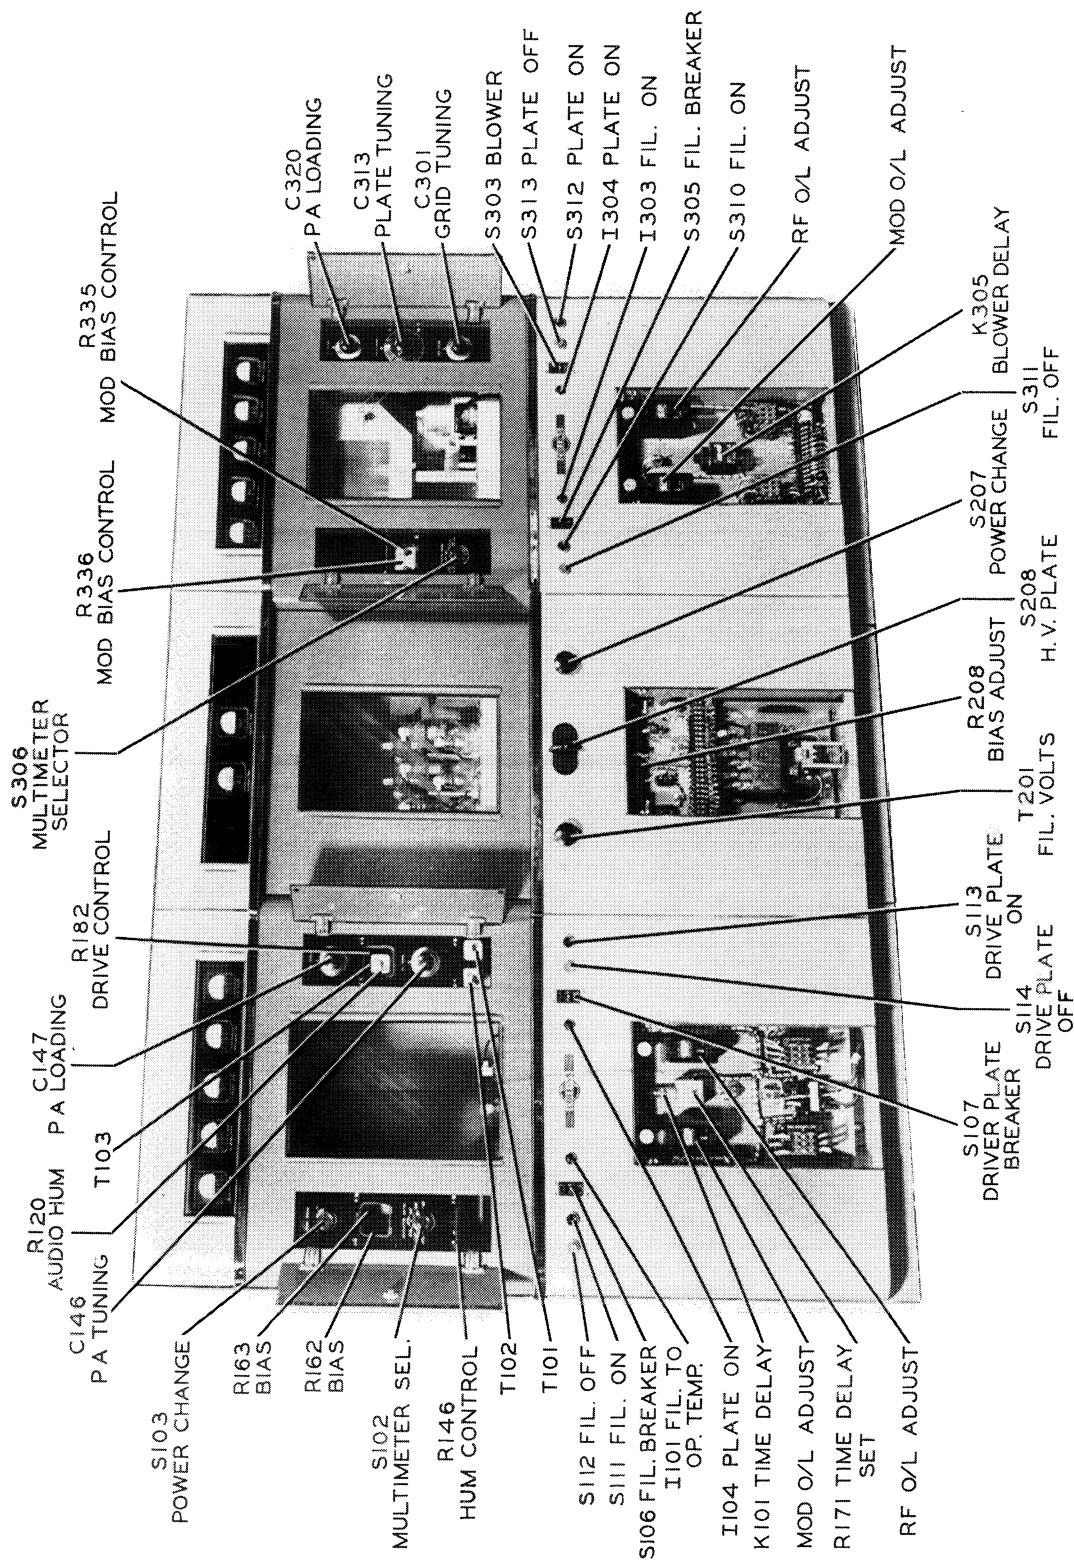

Figure 3-1. Operating Controls and Parts Arrangement, Front View
k. Rotate the crystal selector switch, S-101 to the desired position. The location of this switch is shown in figure 3-1.
p. Rotate the multimeter switch to the position designated 807 grid, 25 ma. It may be necessary to adjust C-114 and C-115, the first buffer tank circuit trimmers. The location of screwdriver adjustment, for these two trimmers is shown in figure 3-1. They should be adjusted for maximum 807 grid current.
r. Rotate the multimeter switch to the PA grid position to check the adjustment of the 807 r-f driver plate trimmer capacitors, C-125 and C-126. The screw-driver adjustments for these trimmers are shown in figure 3-1. They should be adjusted for maximum power amplifier grid current. These two trimmers are connected in parallel as shown in figure 8-2 for the standard broadcast band. One of the trimmers should be adjusted to give a good tuning range with the second trimmer, and adjustments made with the second trimmer.
3.3. DESCRIPTION OF OPERATING CONTROLS. (See figure 3-1.)
Multimeter switch S-102 is a two-pole seven-position switch located behind the left door on the front of the driver cabinet as shown in figure 3-1. This switch inserts multimeter M-104 into any one of seven driver circuits. Table 3-1 lists the multimeter switch positions and typical readings for these circuits. The full scale reading of the multimeter is indicated for each switch position.